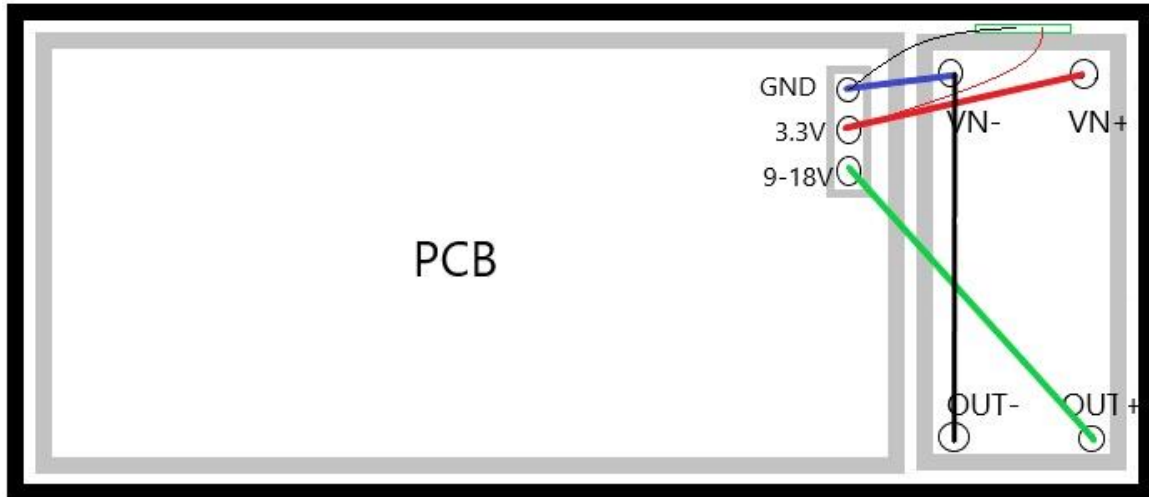

Figure 11: Schematic image
18. Connect the female wires to the PCB as shown in Figure 11